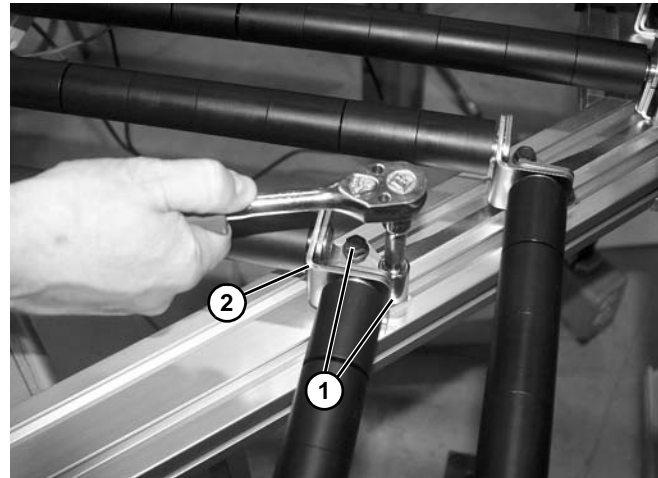

Figure 63
7. Loosen two bolts (Figure 63, item 1) from corner angle bracket (Figure 63, item 2).